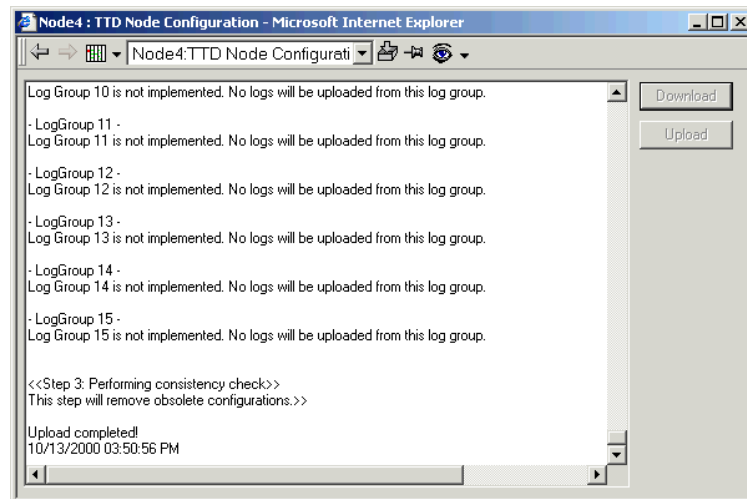

Figure 39. Upload of TTD Logs
**Upload of TTD Logs from Controller.** To load the existing TTD logs into the History Configuration Aspect System, you use the synchronization view of the TTD Node Configuration aspect. The upload process creates all necessary Log Template and Log Configuration aspects. Click **Upload** and wait. The progress is presented in the text window, see Figure 39.